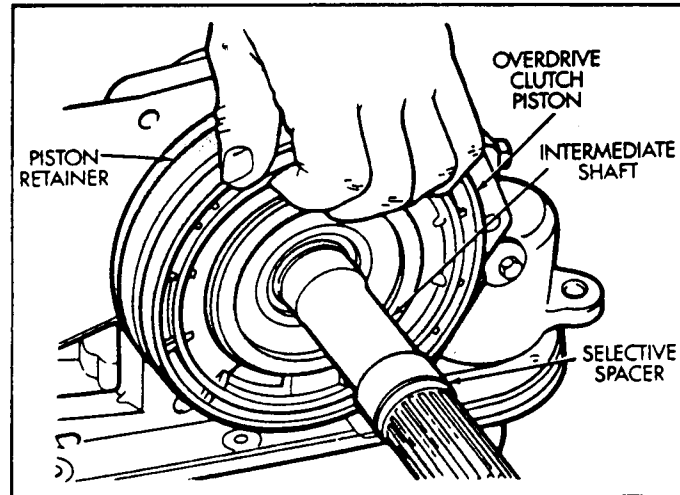

Figure 153
61. Use wire lip seal installer and install overdrive piston into the retainer. (See Figure 153).
62. Install selective spacer on intermediate shaft (See Figure 153).